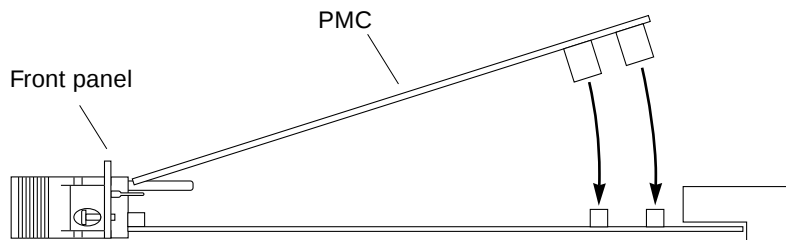

FIGURE 2-6 Pressing the PMC Into the PMC Connectors (Side View)
- 8. Carefully press the PMC into the board's PMC connectors (FIGURE 2-6).**